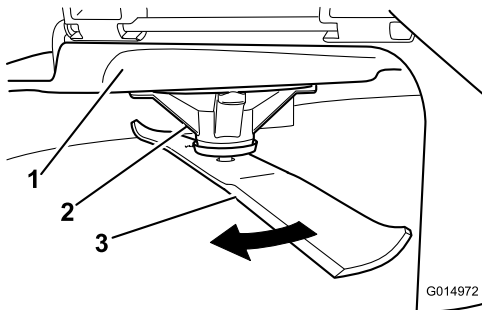

Figure 51
2. While wearing thickly padded gloves, or other adequate hand protection, slowly rotate the blade into a position that allows you to measure the distance between the cutting edge and the level surface the machine is on (Figure 51).